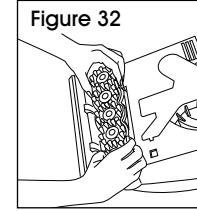

Figure 32
2. Press brush assembly firmly to snap into place. (See Figure 32)